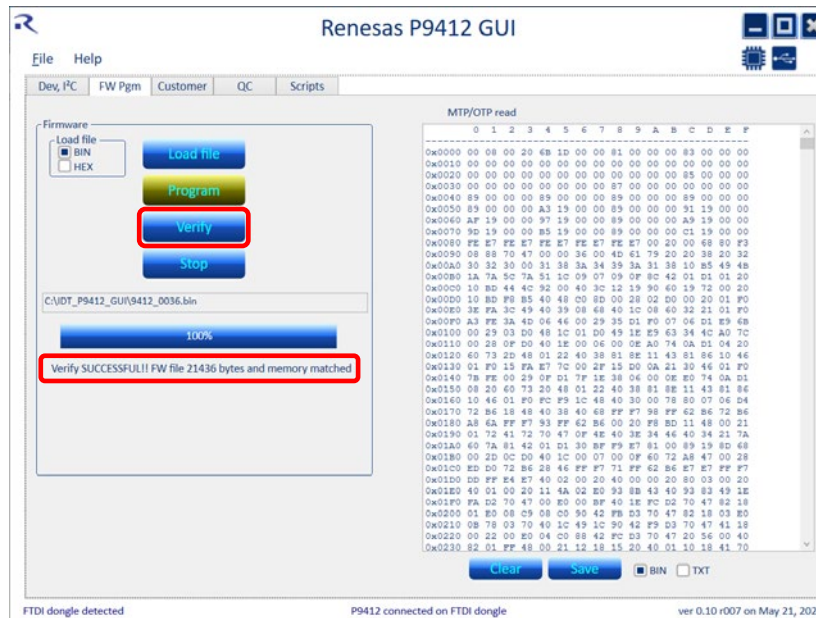

Figure 10. Firmware Program Verification Success
- 4. If the firmware was programmed successfully, power cycle the external P/S (turn P/S off then on). Then press the “Verify” button. A total match should be indicated for successful programming (see Figure 10). If there are any errors, attempt to program again.